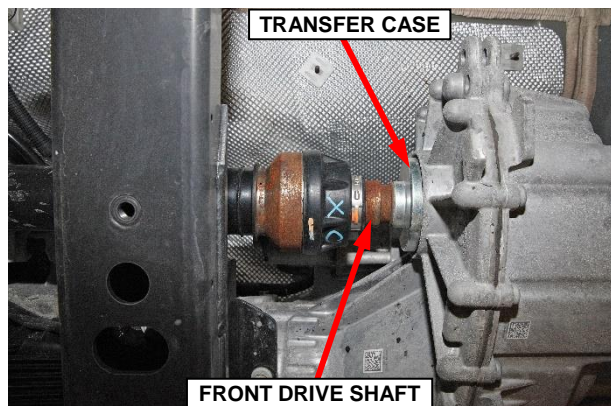

Figure 11 – Front Drive Shaft
- Slide the front drive shaft off the transfer case output shaft spline then remove and **SAVE** the front drive shaft (Figure 11).
17. Slide the front drive shaft onto the transfer case output shaft spline (Figure 11).